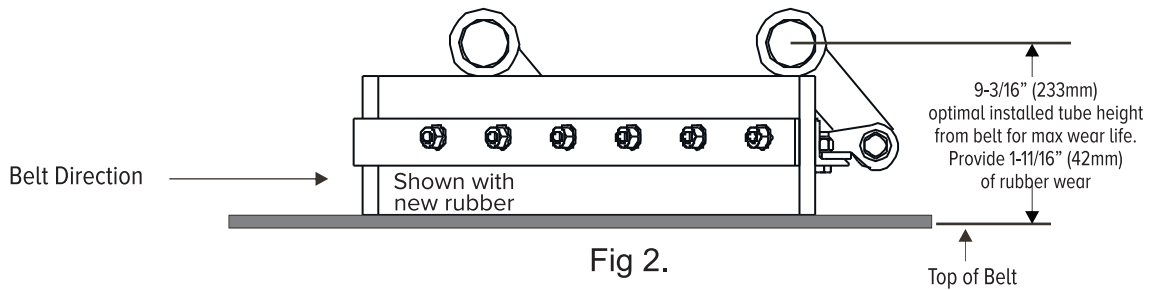

Fig 2.
- Step 2** Mount the return side V-PlowXD so that the center of the support tubes are 9-3/16" (233mm) above the belt as shown in Fig. 2. This will insure that the steel frame and hardware will not contact the belt when the rubber plow surface wears.